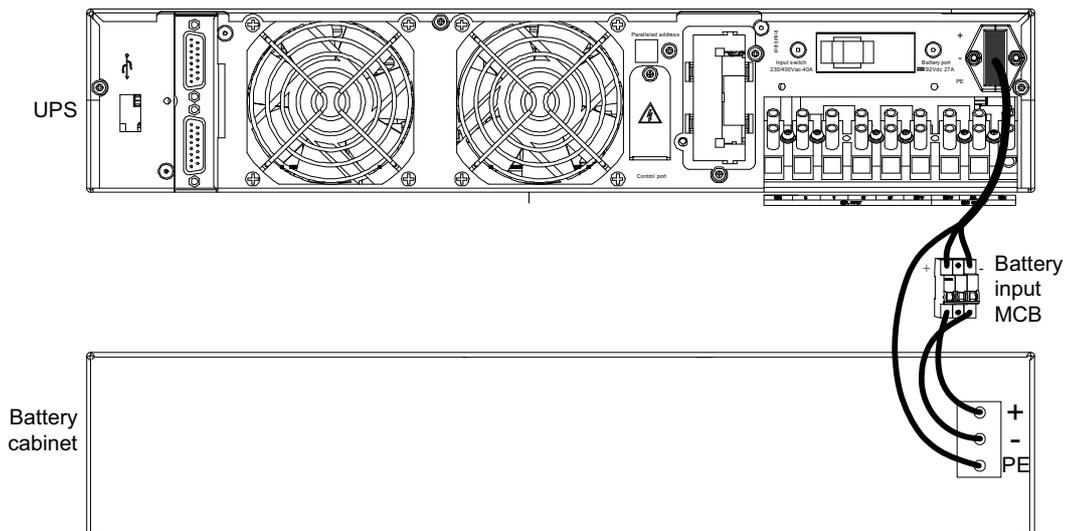

Figure 2-21 Battery cable connection for long-time delaying UPS
4. Insert the PP45 plug into the battery port on the rear panel of the UPS, as shown in Figure 2-21.